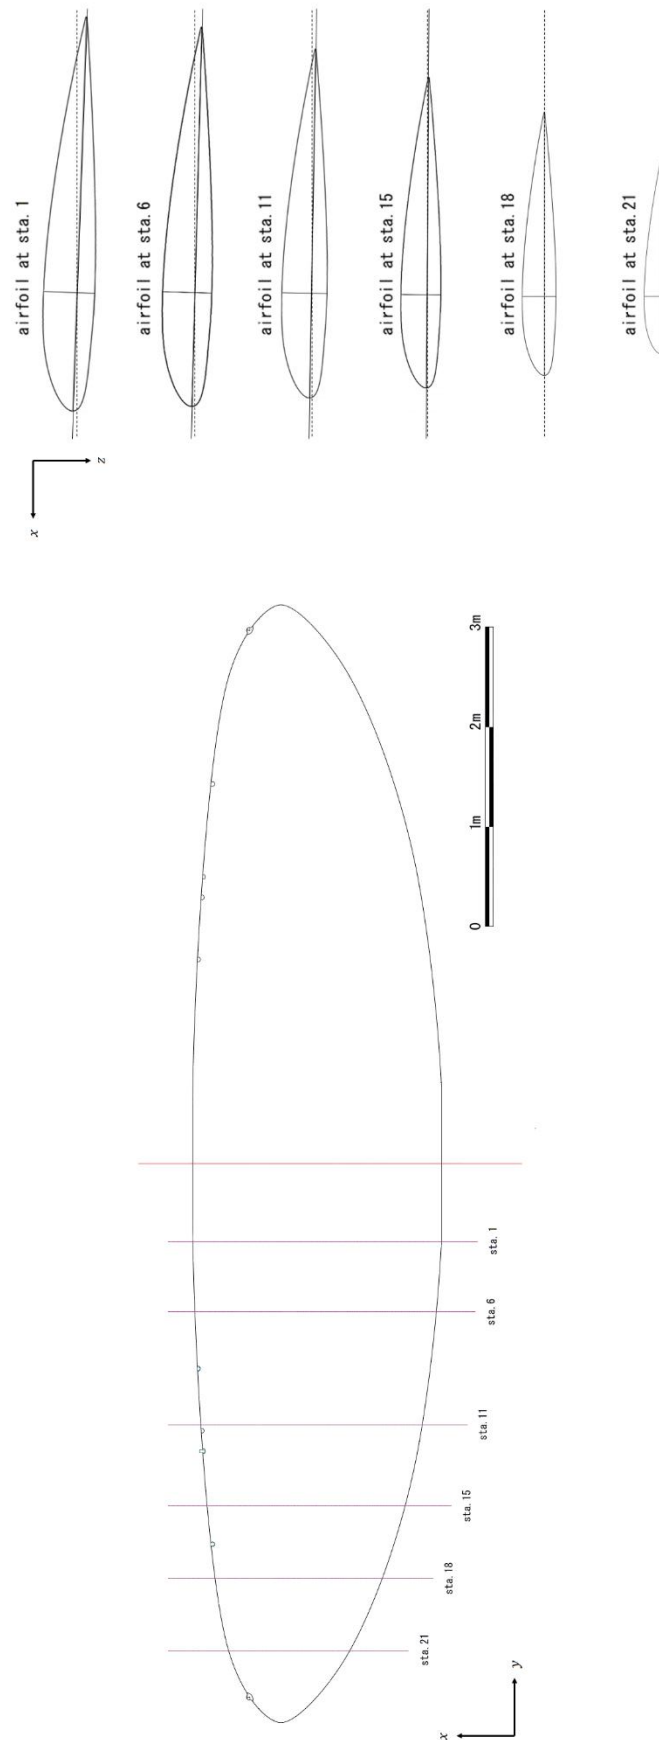

Fig. 3: Planform of the wing (see Canvas for a high-resolution image: Planform.png).
1. While you were busy analysing the airfoil, your team members scanned the wing planform, as shown in Fig. 3 (a high-resolution image has been uploaded to Canvas: Planform.png). Using the scale provided in the image, determine the following: